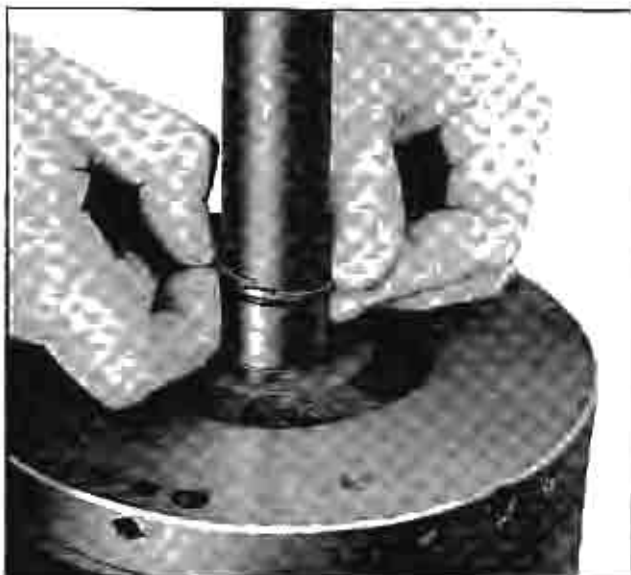

Fig. 70 Removing Oil Ring
2. Remove hook-type oil ring from intermediate shaft (Fig. 70) by pushing one end toward center of shaft and other away to unhook.